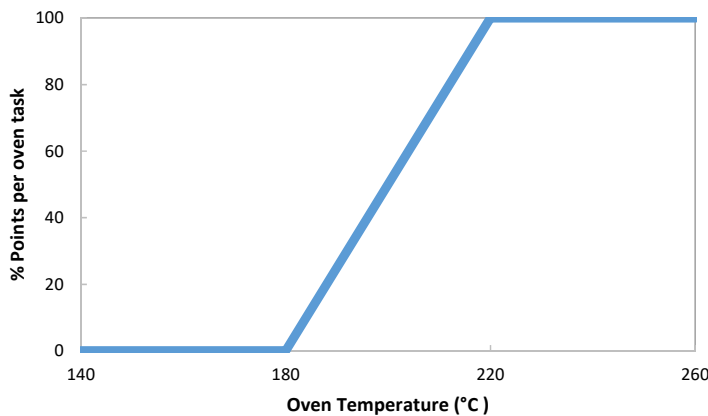

Figure 19: Oven sub contest point's distribution
- b) Reduced points are earned if the oven temperature is between 180°C and 220°C. Reduced points are scaled linearly, as shown in Figure 19.